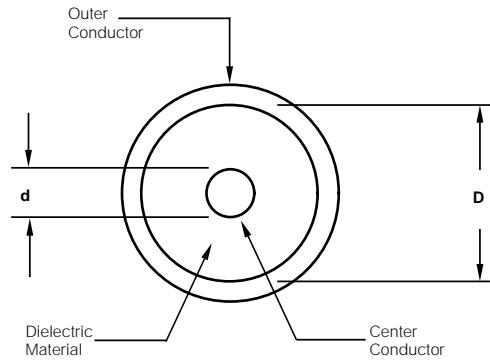

**Figure 12**
Now that we know why fast pulses are required, the next problem is how to obtain faster rise times. A pulse is made up of a great number of different frequencies, and the more high frequencies a pulse contains, the faster will be its rise time and the flatter will be its peak. To better understand this, refer to Figure 12. At A, you will see a fundamental frequency (1), its third harmonic (3), and the resultant waveform (S3), which is a combination of 1 and 3. Although this does not yet resemble a square wave, you will note that the rise time is decreased, and a dip appears at the peak. At B of Figure 12, we have added the fifth harmonic. Rise time is further decreased, and the peak is beginning to flatten out. At C the seventh harmonic has been included, and the resultant wave S7 begins to resemble a square wave. As more high frequency harmonics are added to the waveform, it will more closely resemble a square wave, and the squarer it becomes, the faster will be the rise time.